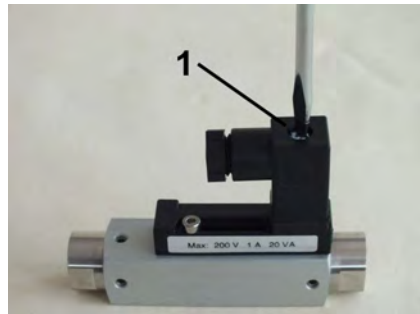

Fig. 21: Detach socket
1. Release the fixing screw (Fig. 21/1) from the socket.
9. → Plug the socket onto the connector plug and tighten the fixing screw (Fig. 21/1).